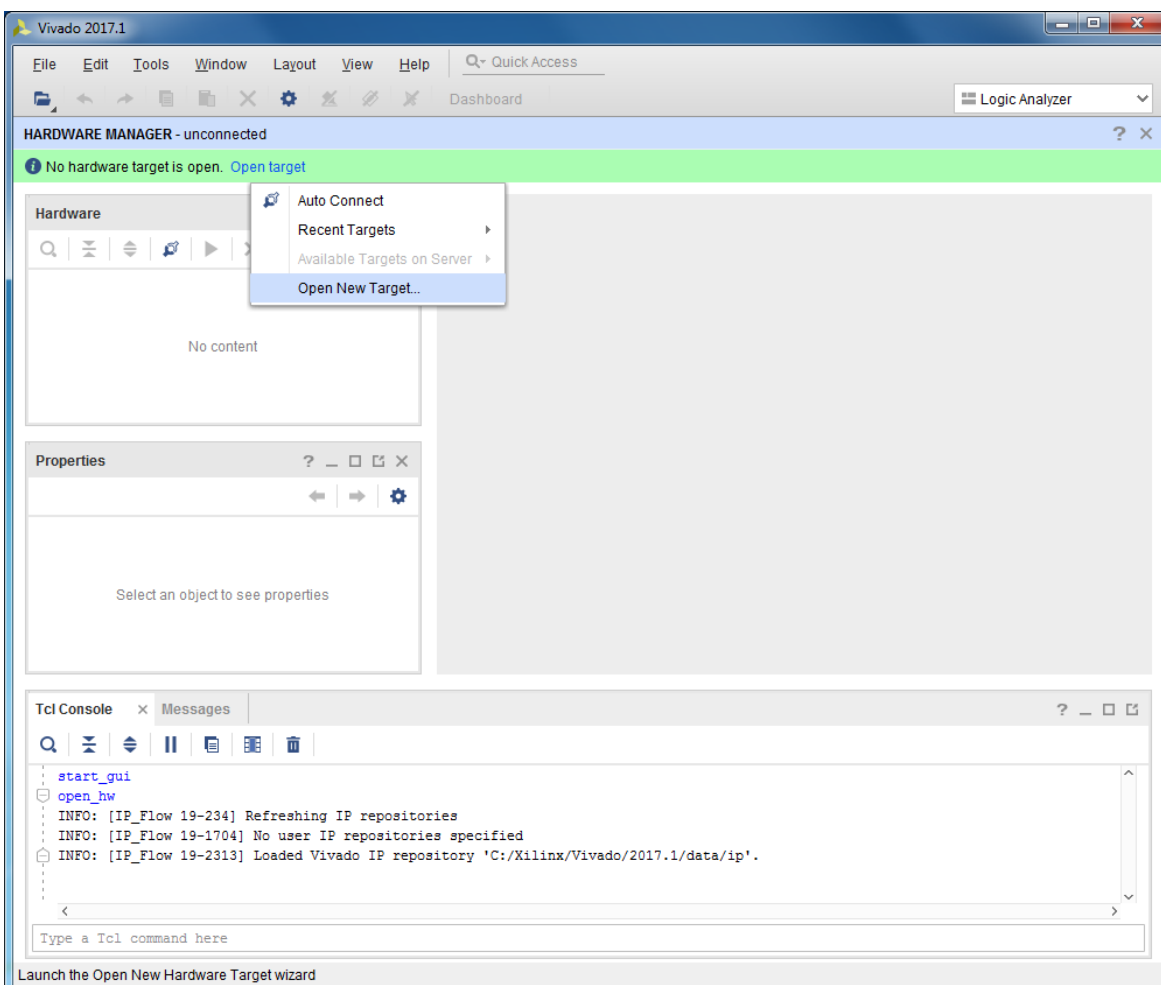

Figure 13: Hardware Manager
5. Open the connection wizard to initiate a connection to the KCU105 board. Click **Open Target > Open New Target** as shown in Figure 13.